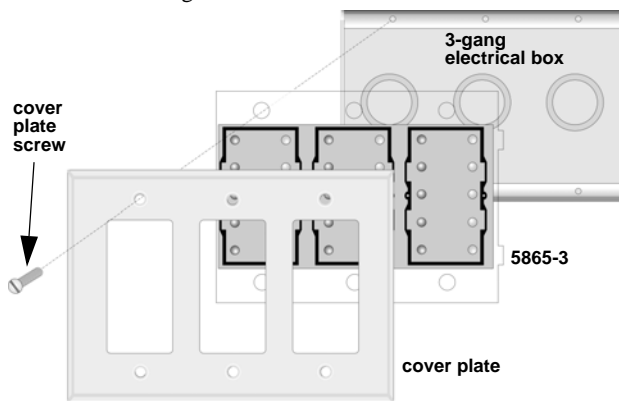

Figure 1.1 : 5865-3 Mounting
2. Place the 5865-3 into the 3-gang electrical box. See Figure 1.1.
3. Place cover plate over the top of the 5865-3 and align the holes. See Figure 1.1.